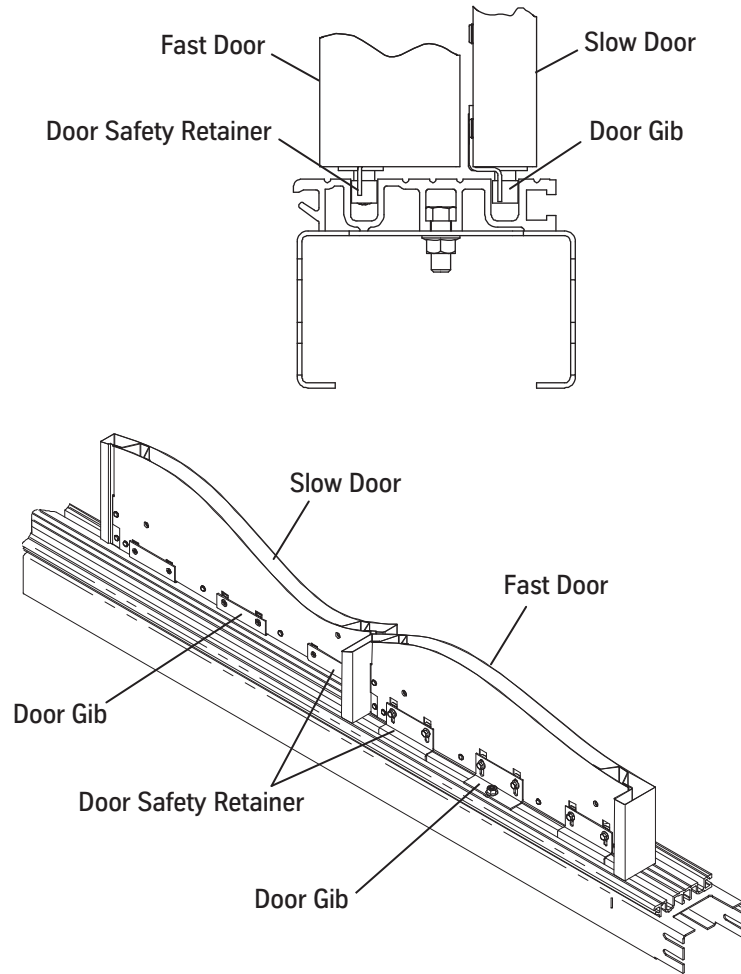

Figure 37 - Door Gibs and Safety Retainers
7. Install the door gibs and the door safety retainers. See Figure 37.